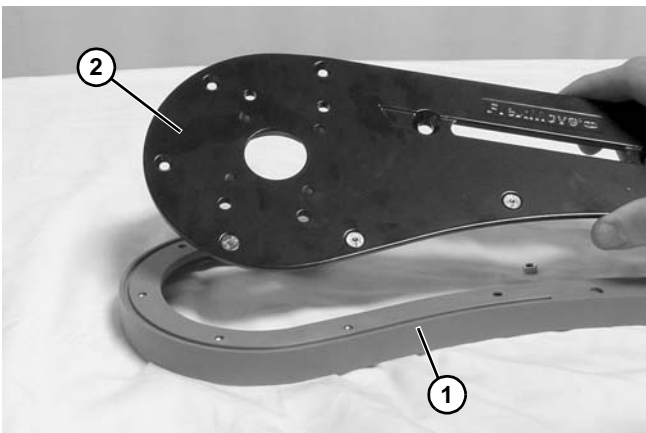

Figure 57
6. Remove upper retaining guide (Figure 57, item 1) from drive plate (Figure 57, item 2).